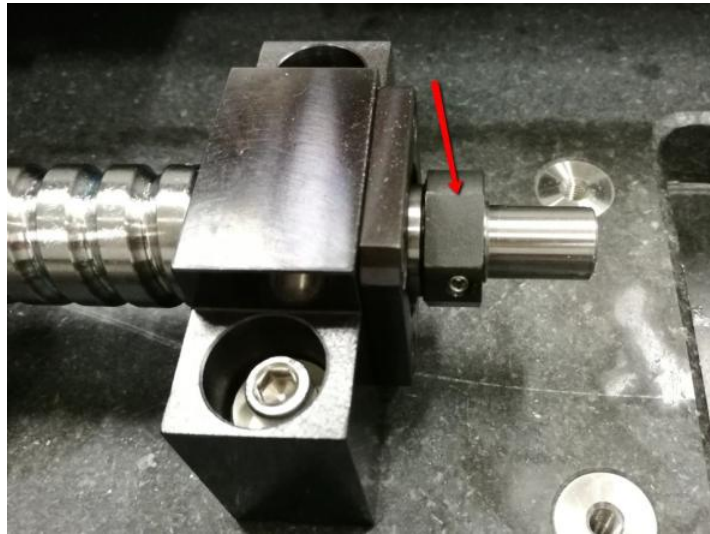

Figure 11 Lock Nut Removal
14. Gently remove the lock nut as below Figure 11.